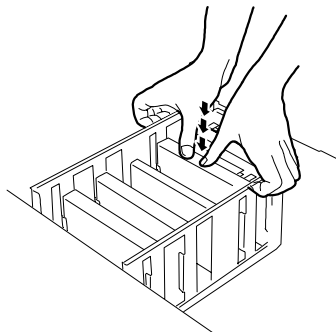

Figure 4-13. Installing the Processor Board
15. Insert the processor between the right and left guard rails and slowly push the processor with your thumbs as far as it will go into the socket, see Figure 4-13.